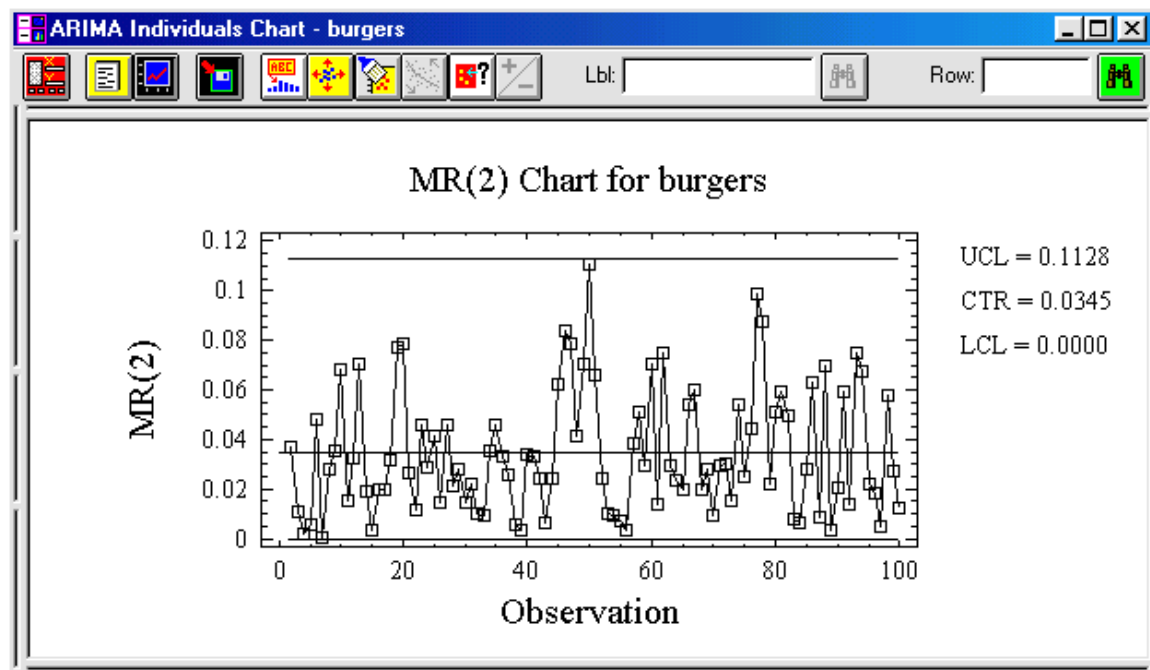

Figure 7-26. MR(2) Chart
The MR(2) Chart option creates a plot of the moving ranges for each of the observations and shows the points that are beyond the control limits (see Figure 7-26).